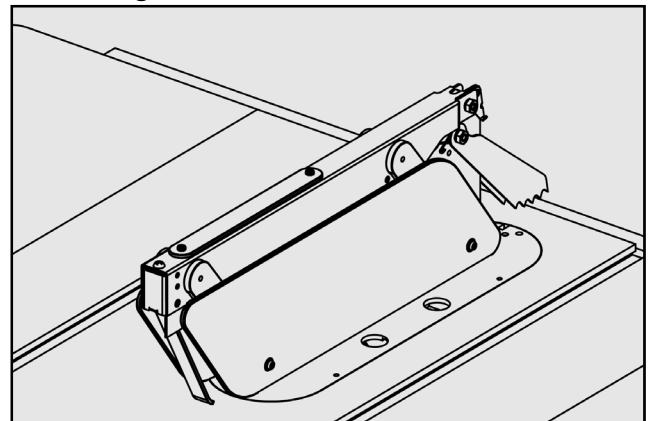

Fig. 15
3. Give the spreader an upward tug to verify that it is locked in the blade guard when properly installed, refer to **Fig. 15**